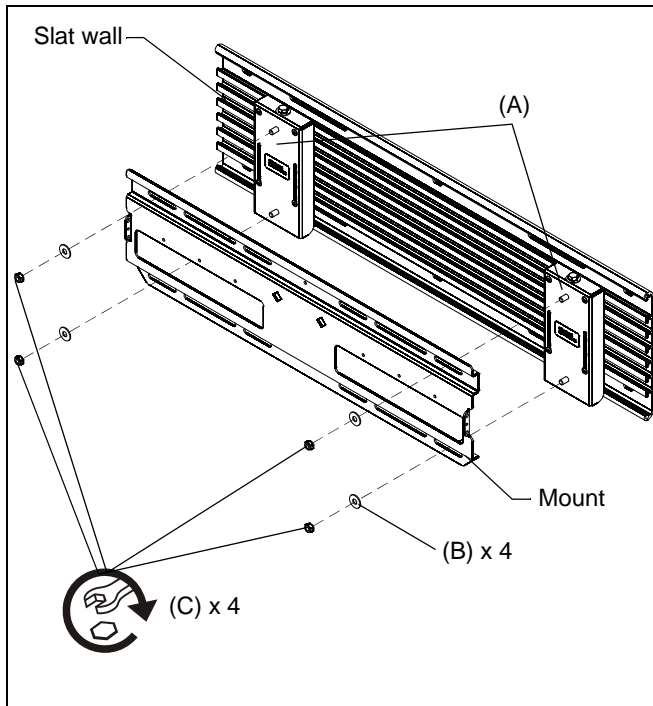

Figure 4
7. Install mount to PAC-391 using four 5/16" flat washers (B) and four 5/16" lock nuts (C). (See Figure 4)